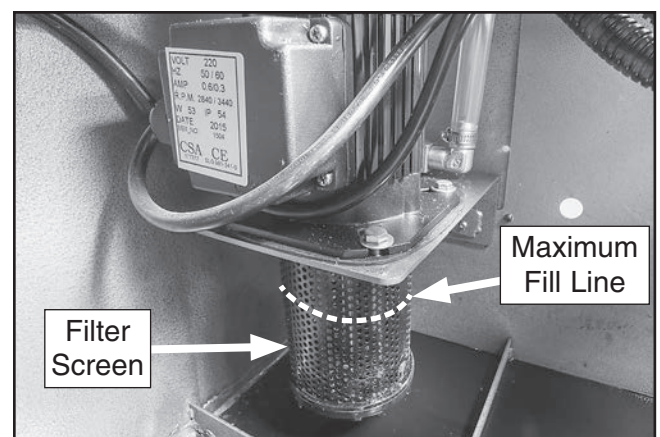

Figure 78. Approximate maximum fill line on filter screen.
3. Fill reservoir with coolant until it is at maximum fill line shown in **Figure 78**.